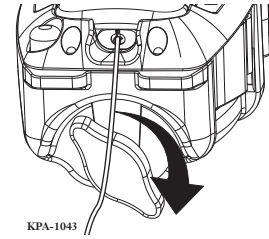

Figure 75 — Rotate Crimp Knob
- Step 4:** Rotate the Crimp Knob 180 degrees (Figure 75).